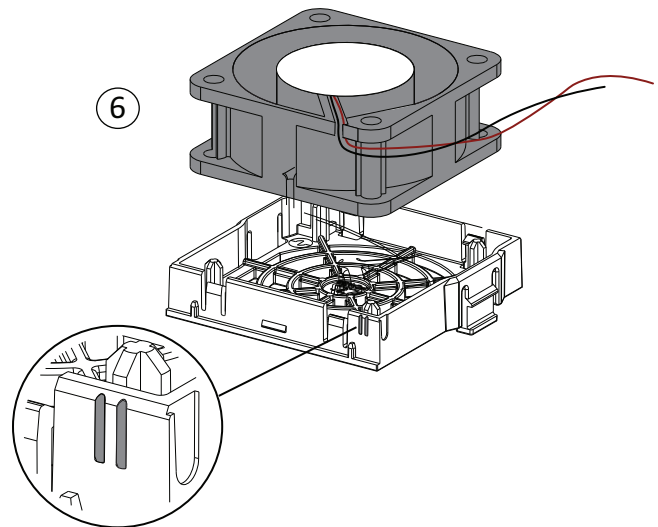

Fig. 68 — Install New Fan into Fan Cover
6. Install the new fan into the fan cover. Make sure that the air flow is in the correct direction. The air flows in from the bottom of the drive and out from the top of the drive. As shown in the following figure, the side with the fan power cable is aligned to the double bars sign on the fan cover. See Fig. 68.